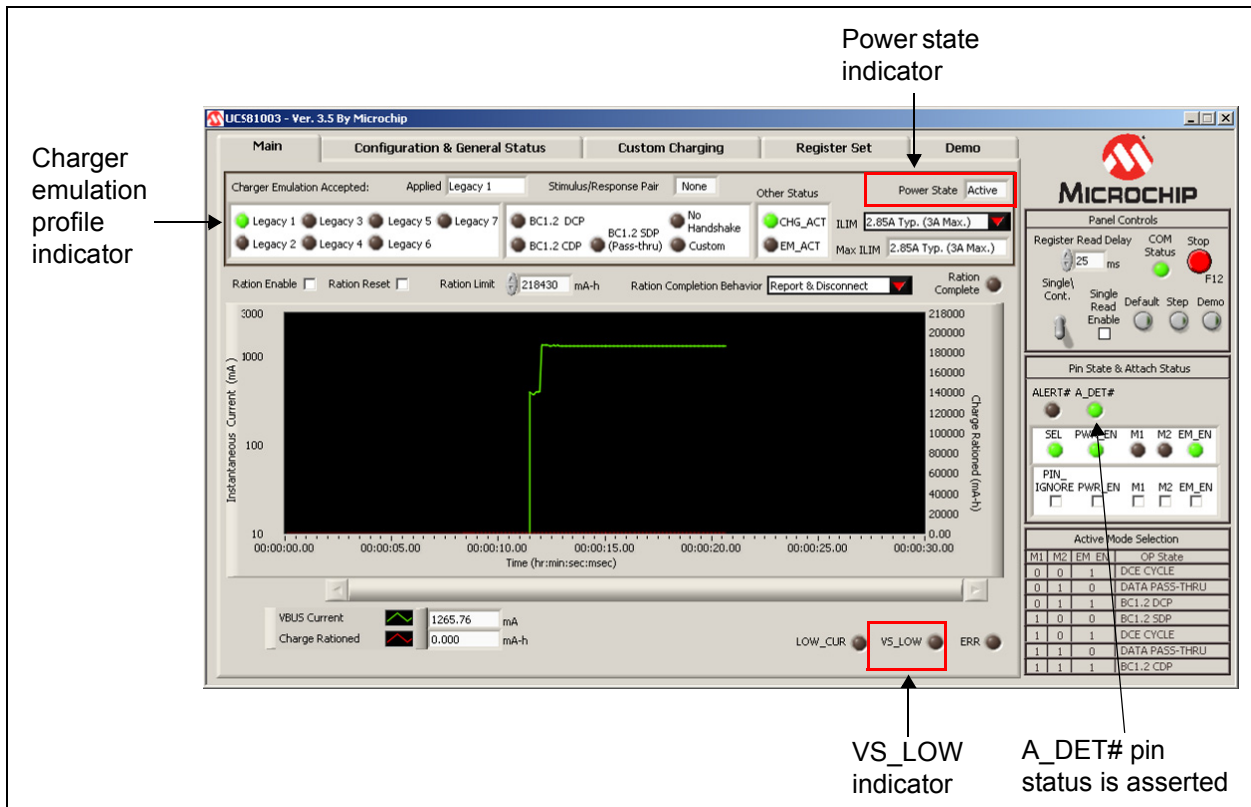

FIGURE 4-7: Main Tab - Charging Started.
3. The UCS1003-1 should detect an attachment, switch to the Active Power state, apply an emulation profile and deliver a charge. Figure 4-7 shows the interface after charging has started.